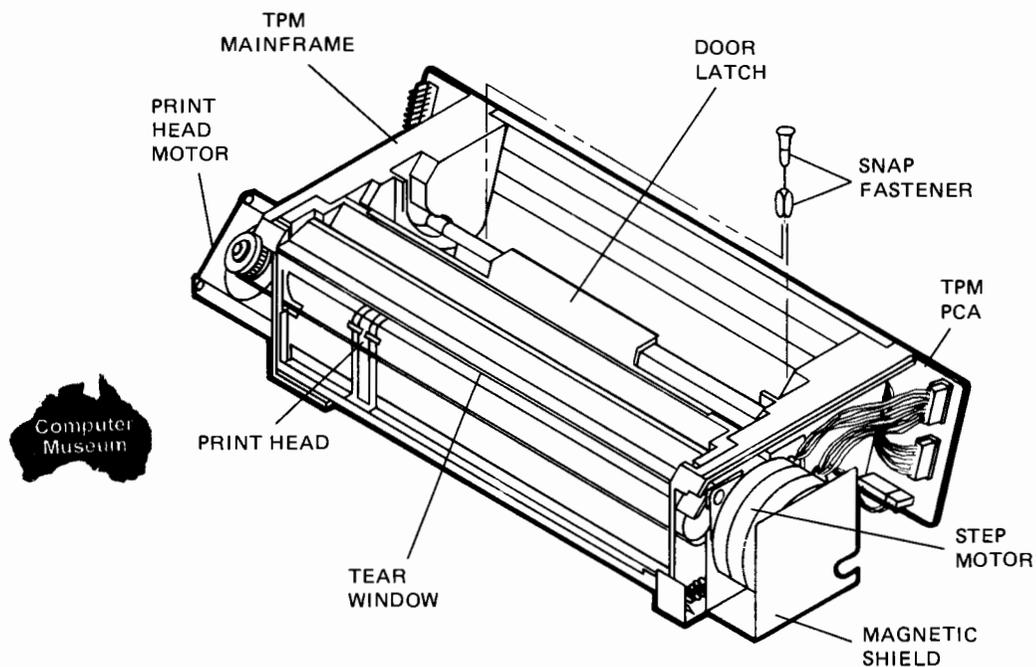

Figure 7-13. TPM Removal
2. Use an IC removal tool and unsnap the two snap fasteners securing TPM to mainframe (see figure 7-13).
3. Use an IC removal tool and unsnap the two snap fasteners securing TPM to mainframe (see figure 7-13).
8. Unplug the connector end of the print head assembly. (See figure 7-13.)